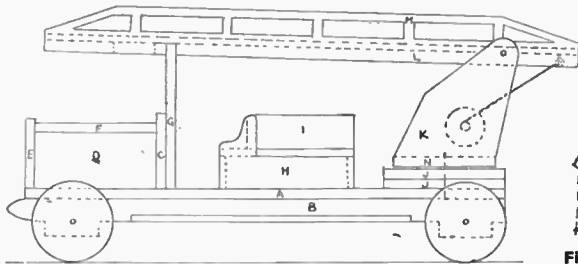
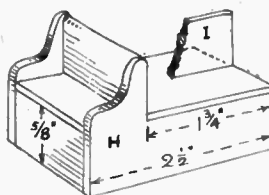

Fig. 1—Side view with lettered parts
Fig. 5—Seating arrangement
As will be seen from Fig. 1, the ladder is pivoted to the two sides of the turntable, so that when winding is commenced, the ladder is drawn down at the end and so elevated at the far end.
The side view, Fig. 1, helps to show the position of the main parts of the toy. The floor (A) will be the first piece to mark out and cut with the fretsaw. This measures 9in. by $2\frac{1}{2}$ in. and is $\frac{3}{16}$ in. thick. Then to the side edges of this piece, the two parts (B) are glued and pinned.
The seats for the firemen can again be completed from the diagram, Fig. 5, wood $\frac{1}{2}$ in. thick being used here for all the parts. Note how the side edges of the top seat will be cut back to allow the sides (H) to fit under; this can be seen in Fig. 1. The width of the seat end (H) is
1 3/4 in., while its length is 2 1/2 in., as seen in Fig. 5.